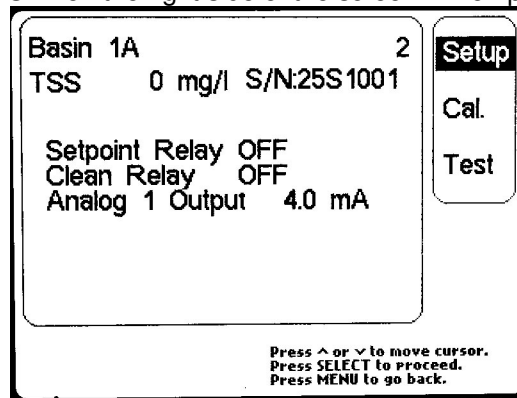

Figure 29 - Channel Info Screen (TSS)
2. From the CHANNEL INFO screen (Figure 29), press the down arrow key once to highlight the word CAL on the right side of the screen. Then press SELECT.
2. From the CHANNEL INFO screen (Figure 29), press the down arrow key once to highlight the word CAL on the right side of the screen, then press SELECT.
2. The CHANNEL INFO screen (Figure 29) should have the word SETUP highlighted on the upper right corner of the screen. Press SELECT.